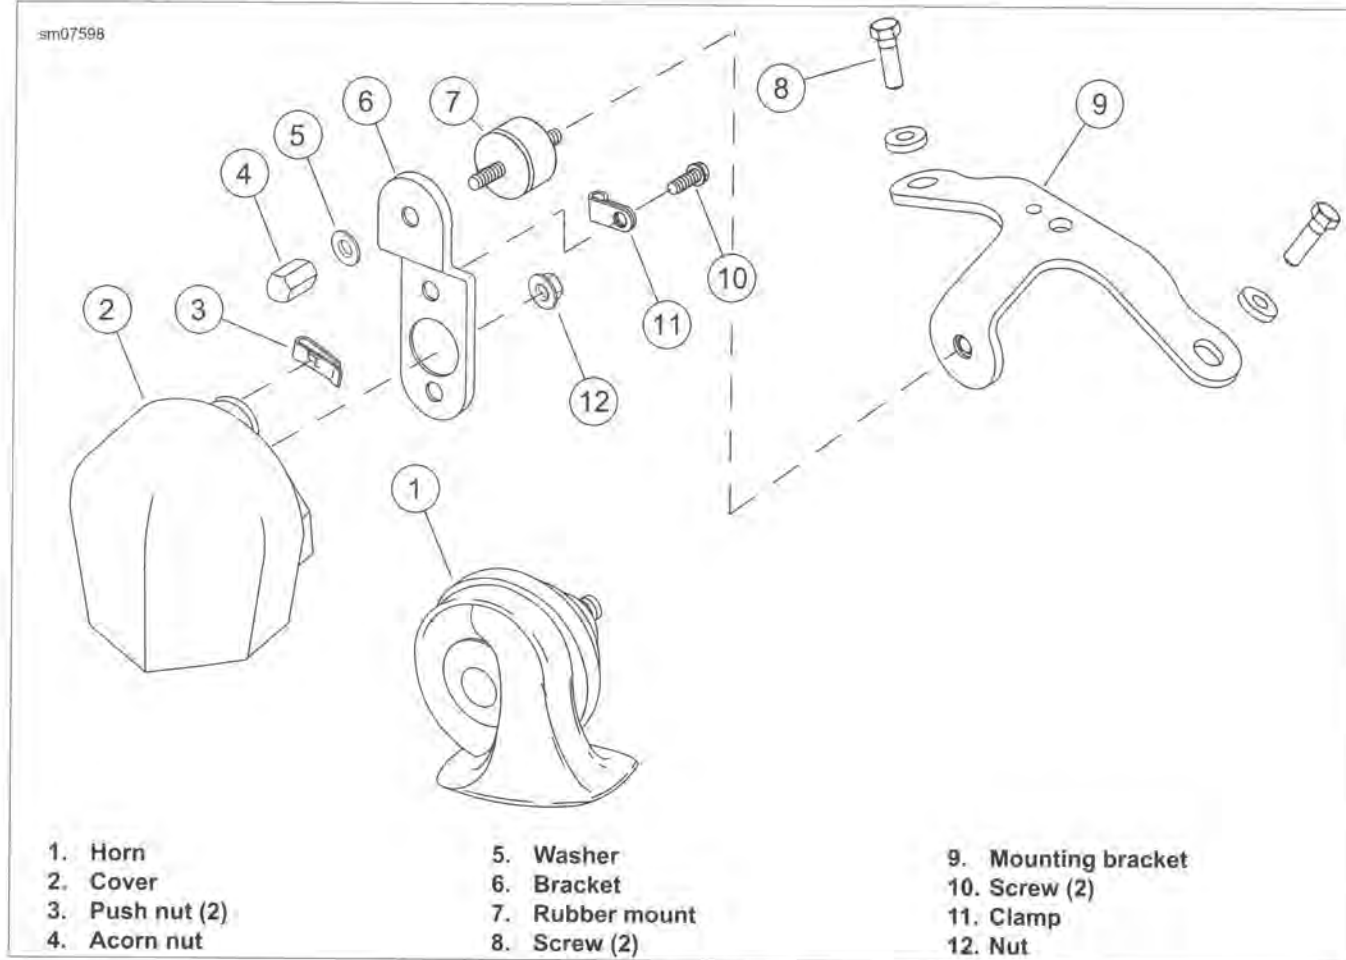

Figure 7-77. Horn
1. See Figure 7-77. Remove acorn nut and flat washer to free horn assembly from rubber mount stud.
1. See Figure 7-77. If removed, install horn bracket to cylinder heads with two screws (8) and washers. Tighten to 35-40 ft-lbs (47.5-54.2 Nm).
2. Install mount (7) if removed:
- b. Install in bracket (9). Tighten to 10-20 ft-lbs (13.6-27.1 Nm).
3. Install bracket (6). Tighten to 35-55 **in-lbs** (3.9-6.2 Nm).